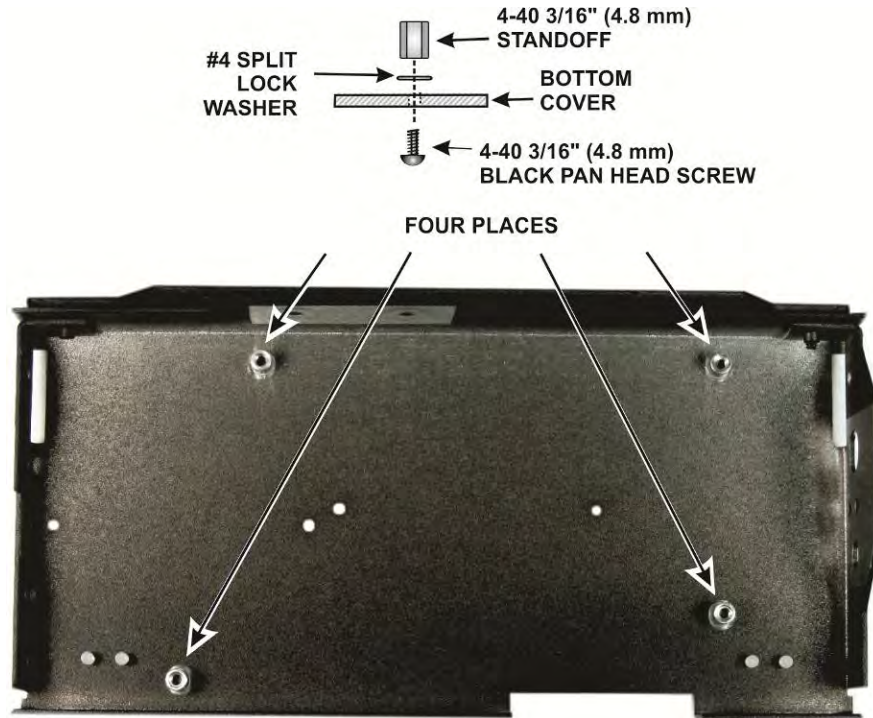

Figure 31. Installing 4-40 Standoffs in the Bottom Cover.
- Install the four #4 (larger) standoffs in the bottom cover as shown in Figure 31.